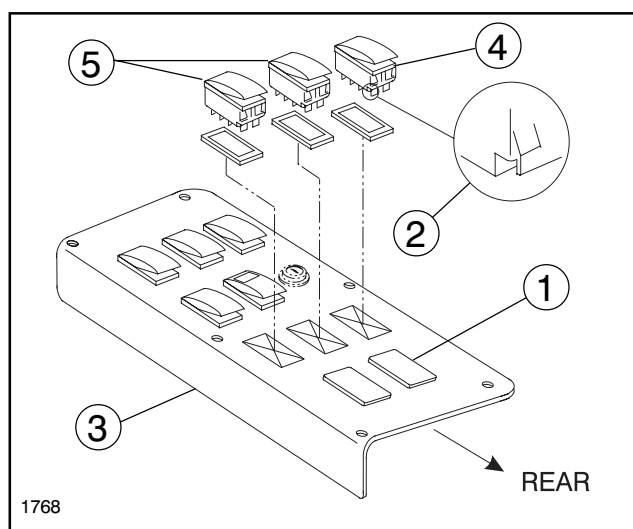

FIG. 19
12. Lift and remove the three plugs from the Center Console Panel and install the three Rocker Switches provided in the location shown in Fig. 19. Insure their orientation matches the orientation shown in FIG. 19, with the cutout notch to the rear of the vehicle. This notch indicates the end of the switch to which the locking Arm (Connector Housing) will mate.
13. Remove the five (5) screws and lift the Spray Control Panel to expose the bottom side.
14. From within the Seat Base compartment, route the Connector Housings through the two (2) holes in the Right Hand Inner Fender Panel and up into the Console area.